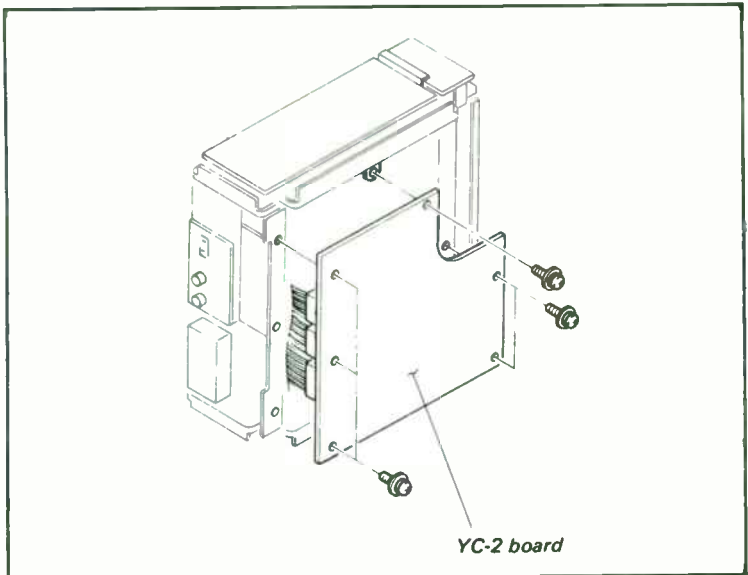

Fig. 4-26. Location of YC-2 board.
■ The YC-2 board can be checked when the machine is placed on the tuner block side. Refer to Fig. 4-26. Set up the record or play mode in that state. When the YC-2 board is removed from the machine, place the machine horizontally for the alignment.